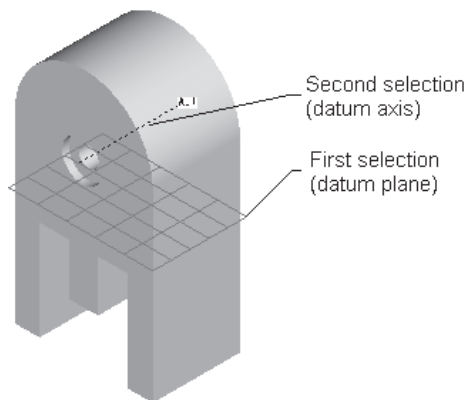
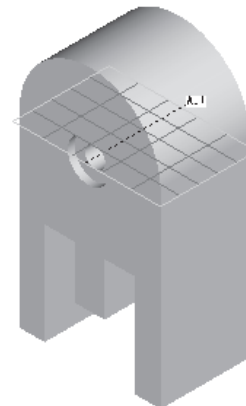

Figure 4-21 Selecting a datum plane and an axis to create a datum plane
Figure 4-22 Resulting datum plane
Figure 4-21 shows the selection of a default datum plane and an axis to create a datum plane. The resulting datum plane is parallel to the selected datum plane and passes through the axis, as shown in Figure 4-22. The following steps explain the procedure to create this datum plane:
1. Invoke the **DATUM PLANE** dialog box. Select the first reference shown in Figure 4-21. The **Offset** constraint is automatically applied and will be displayed in the **References** collector.
3. Now, use CTRL+left mouse button to select the second reference shown in Figure 4-21. The **Through** constraint will be displayed in the **References** collector.
4. Choose the **OK** button from the **DATUM PLANE** dialog box. The datum plane that is created is shown in Figure 4-22.